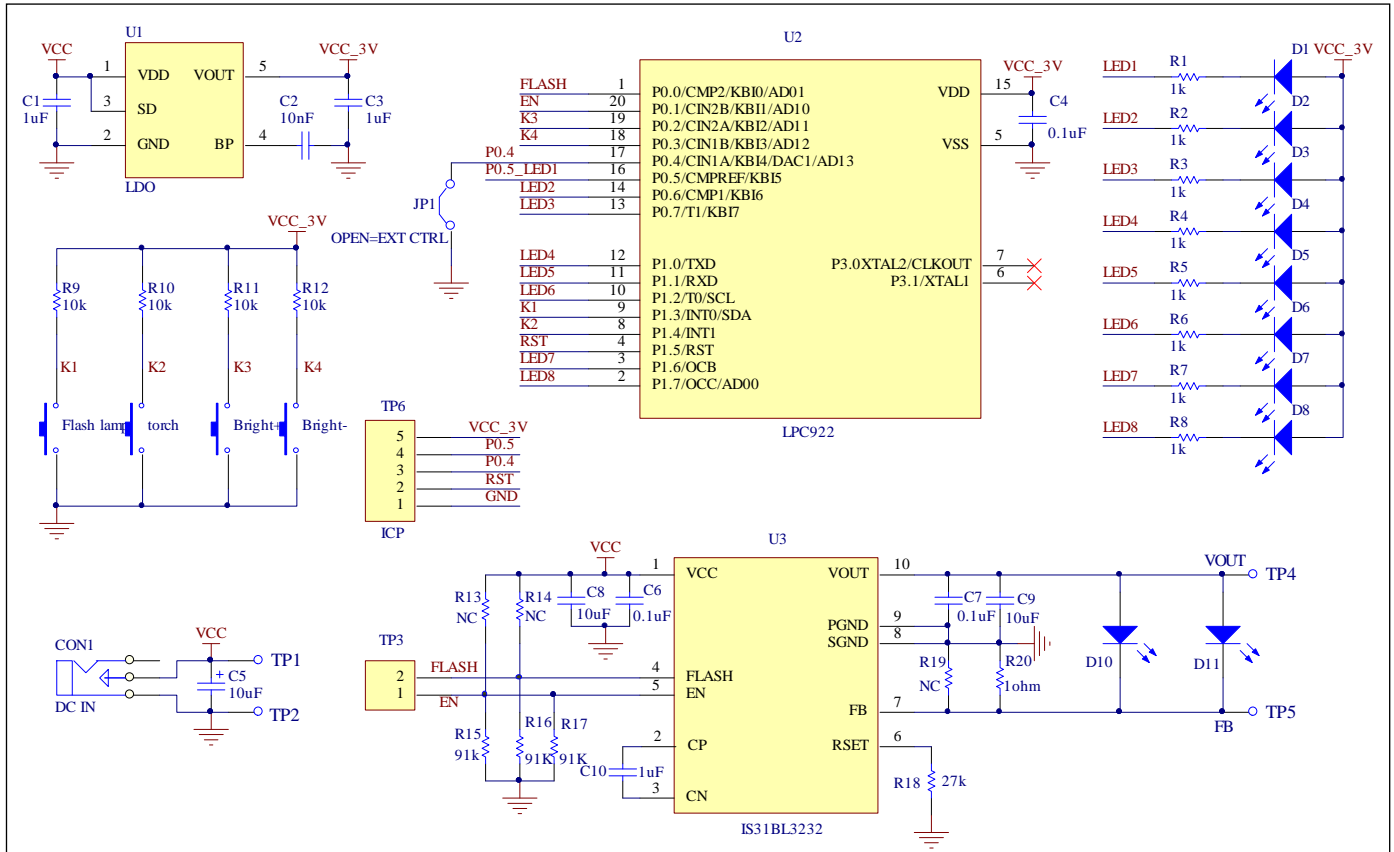

Figure 2: IS31BL3232 Application Schematic
*Bill of materials, refer to Figure 2 above.*